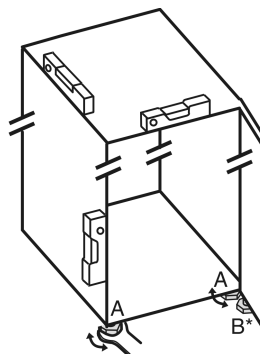

Fig. 24
- Unscrew the adjustable feet Fig. 24 (A) using the enclosed open-end spanner and a spirit level until the appliance is firmly aligned and level.
► Unscrew the adjustable foot *Fig. 24 (B)* on the swap bearing block with the enclosed open-end spanner until it rests on the floor.
► Turn the adjustable foot *Fig. 24 (B)* 90° further.